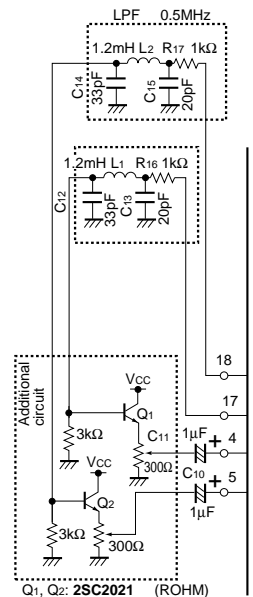

Fig. 15
(2) The VCXO remains in a free-running state except during superimposition.
(4) Pin 4 (B-Y_{IN}) and pin 5 (R-Y_{IN}) have high impedance and are susceptible to the effects of noise and other external factors during pattern generation. For this reason, we recommend adding the circuit in Fig. 15 to lower the input impedance. Adding this circuit can also reduce carrier leakage.